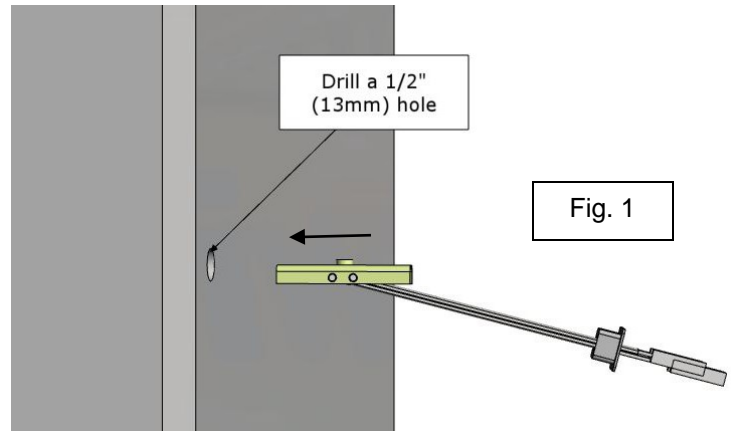

Fig. 1
1. Drill a 1/2" (13mm) hole, in the center of the stud flange. Hold metal channel flat alongside plastic straps and slide channel through hole. Minimum clearance behind wall 1-7/8" (48mm). Fig. 1